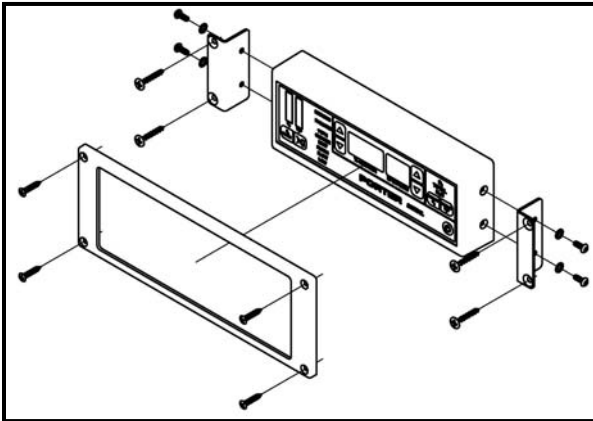

Figure 2. Control Unit recessed mount.
Oxygen Flush Key: Pushing the O₂ FLUSH key delivers 100% oxygen directly to the mixed gas outlet at the rear of the unit. This outlet is connected to the patient through the breathing tube connector (see Figure 2). While the key is pushed, 100% oxygen is delivered continuously at a minimum flow rate of 20 LPM. Releasing the key returns the unit to the flow rate and mixture ratio which were in effect prior to the flush.
1. Using the available brackets mount the Remote Interface Control Unit as desired (see Figure 2.) Shown for recessed into wall. (Kit B-5555-000)